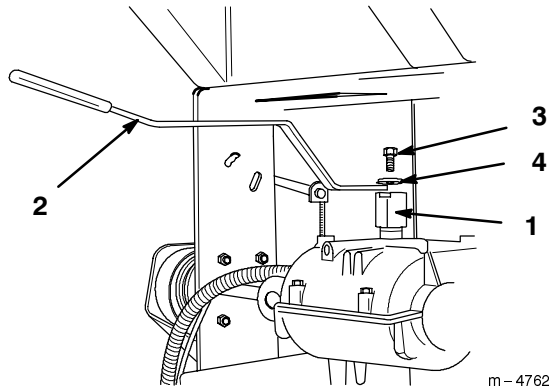

Figure 2
1. Align mounting block with flats of shaft on top of transmission and slide onto shaft (Fig. 2).